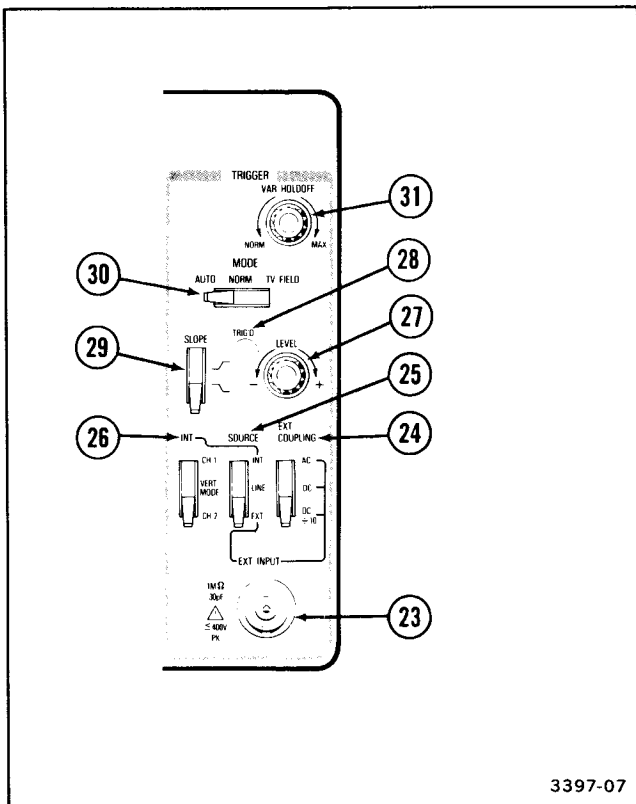

Figure 2-6. Trigger controls, connector, and indicator.
Refer to Figure 2-6 for location of items 23 through 31.
- ②3 **EXT INPUT Connector**—Provides a means of introducing external signals into the trigger generator.
- ②4 **EXT COUPLING Switch**—Determines the method used to couple external signals to the Trigger circuit.